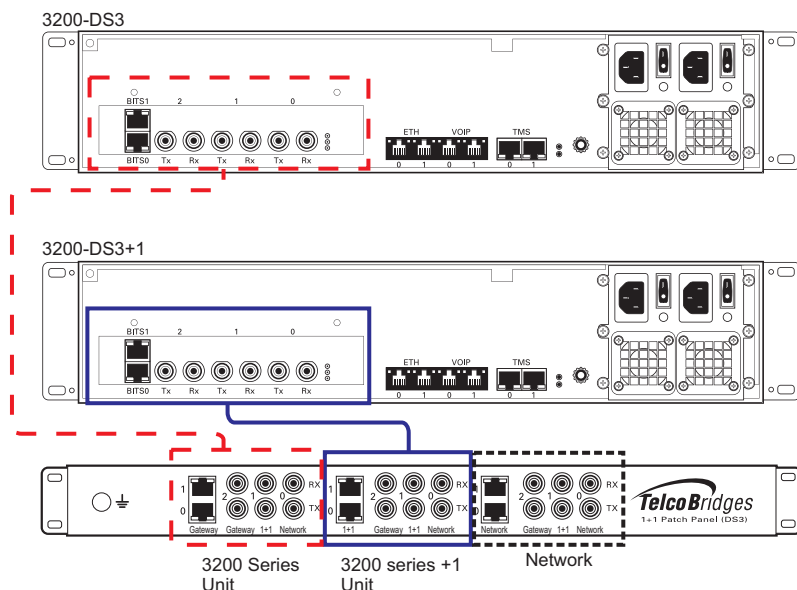

Figure 2.16 3200-DS3 and 3200-DS3+1 connecting to the TDM 1+1 DS3 1+1 patch panel
A 3200-DS3 and 3200-DS3+1 each with 3 sets of BNC connectors enables the connection to DS3 lines. See figure 2.16 on page 38.
1. Connect each DS3 line from the network section of the 1+1 patch panel to the remote equipment. See figure 2.16 on page 38.